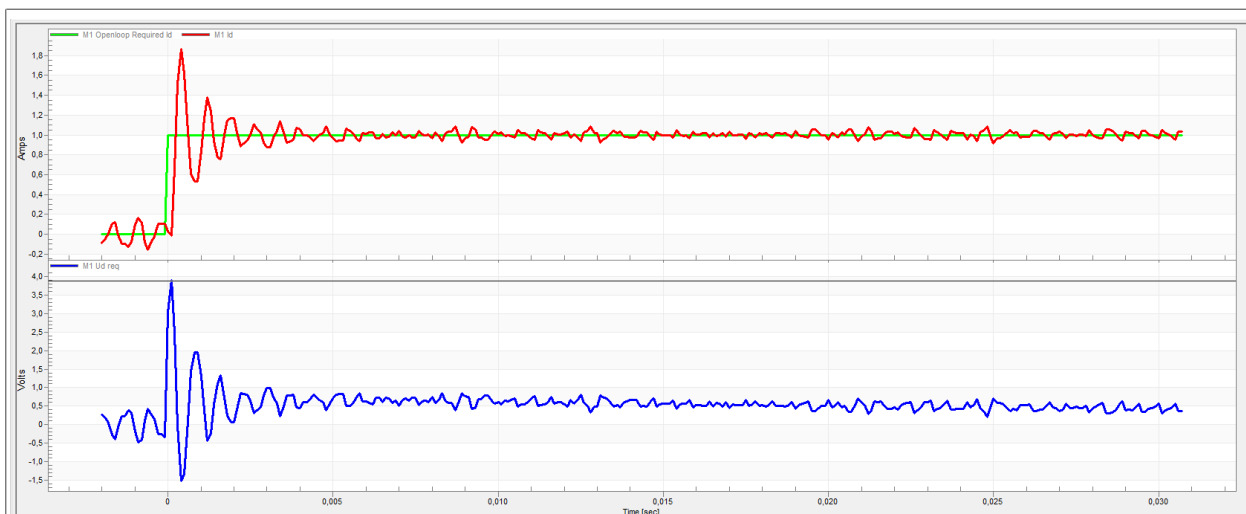

Figure 34. Fast step response of the Id current controller
- The loop bandwidth is high (700 Hz) and the response time of the Id current is very fast, but with oscillations and overshoot (Figure 34).